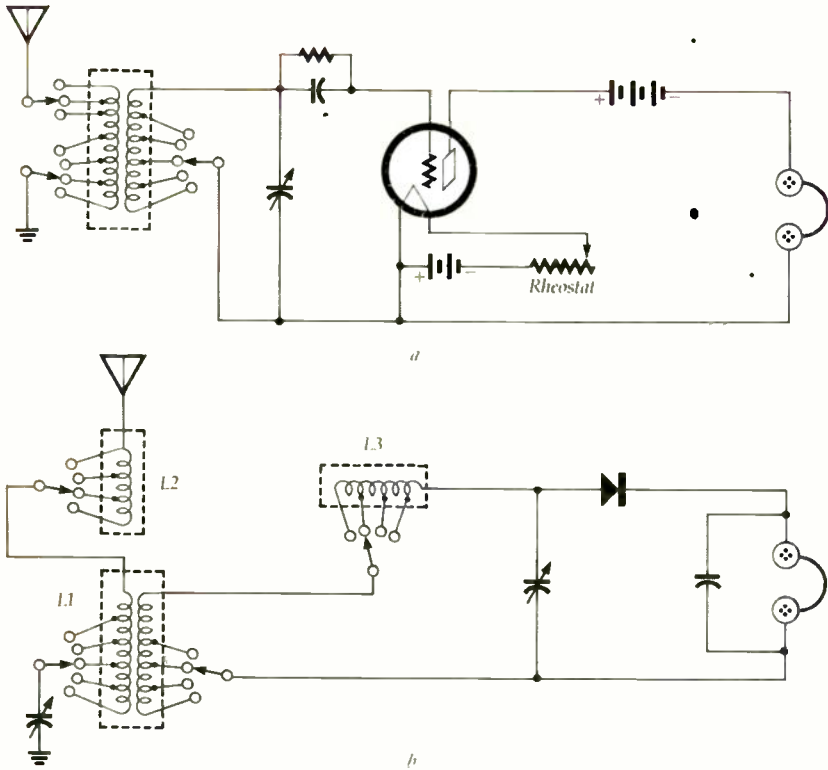

FIG. 1—SIMILAR TUNING METHODS were used for both single-tube and crystal receivers.
**Part 5** AS IMPORTANT AS AMPLIFICATION was during radio's early days, an even more important receiver criterion was selectivity. Selectivity is a measure of the ability to receive closely spaced signals without interference from each other. Improved selectivity was usually attained by using taps on the antenna coil to increase its Q through better impedance matching on both sides of the antenna coil. Figure 1 shows two "selective" circuits used by the early radio experimenters. In Fig. 1-a the taps on both the primary and the secondary of antenna coil L1 are adjusted for best reception or minimum interference. In Fig. 1-b a separate tapped antenna loading coil (L2) is used to peak the antenna itself for a particular range of frequencies, and a tapped inductor (L3) increases the